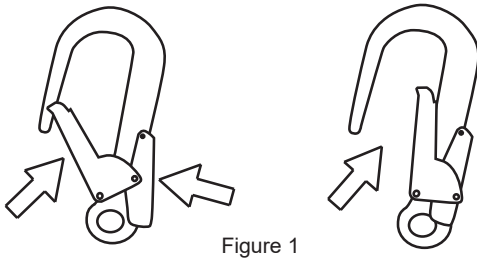

Figure 1
- Check the gate action by releasing it slowly and ensuring it fully & automatically closes (figure 1)- if it does not DO NOT USE